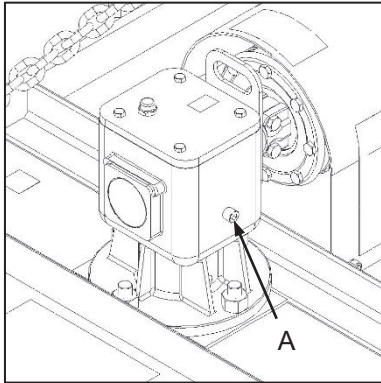

Fig. 4
- ✔ The gearbox is equipped with an oil filling port. Remove the filler plug (Fig. 4-A) and add oil through the filling port so that the oil level coincides with the bottom edge of the hole.
- ✔ Die ratkas beskik oor 'n olievulgat. Verwyder die vullerprop (Fig. 4-A) en voeg olie by totdat die olievlak gelyk is met die onderste rand van die gat.